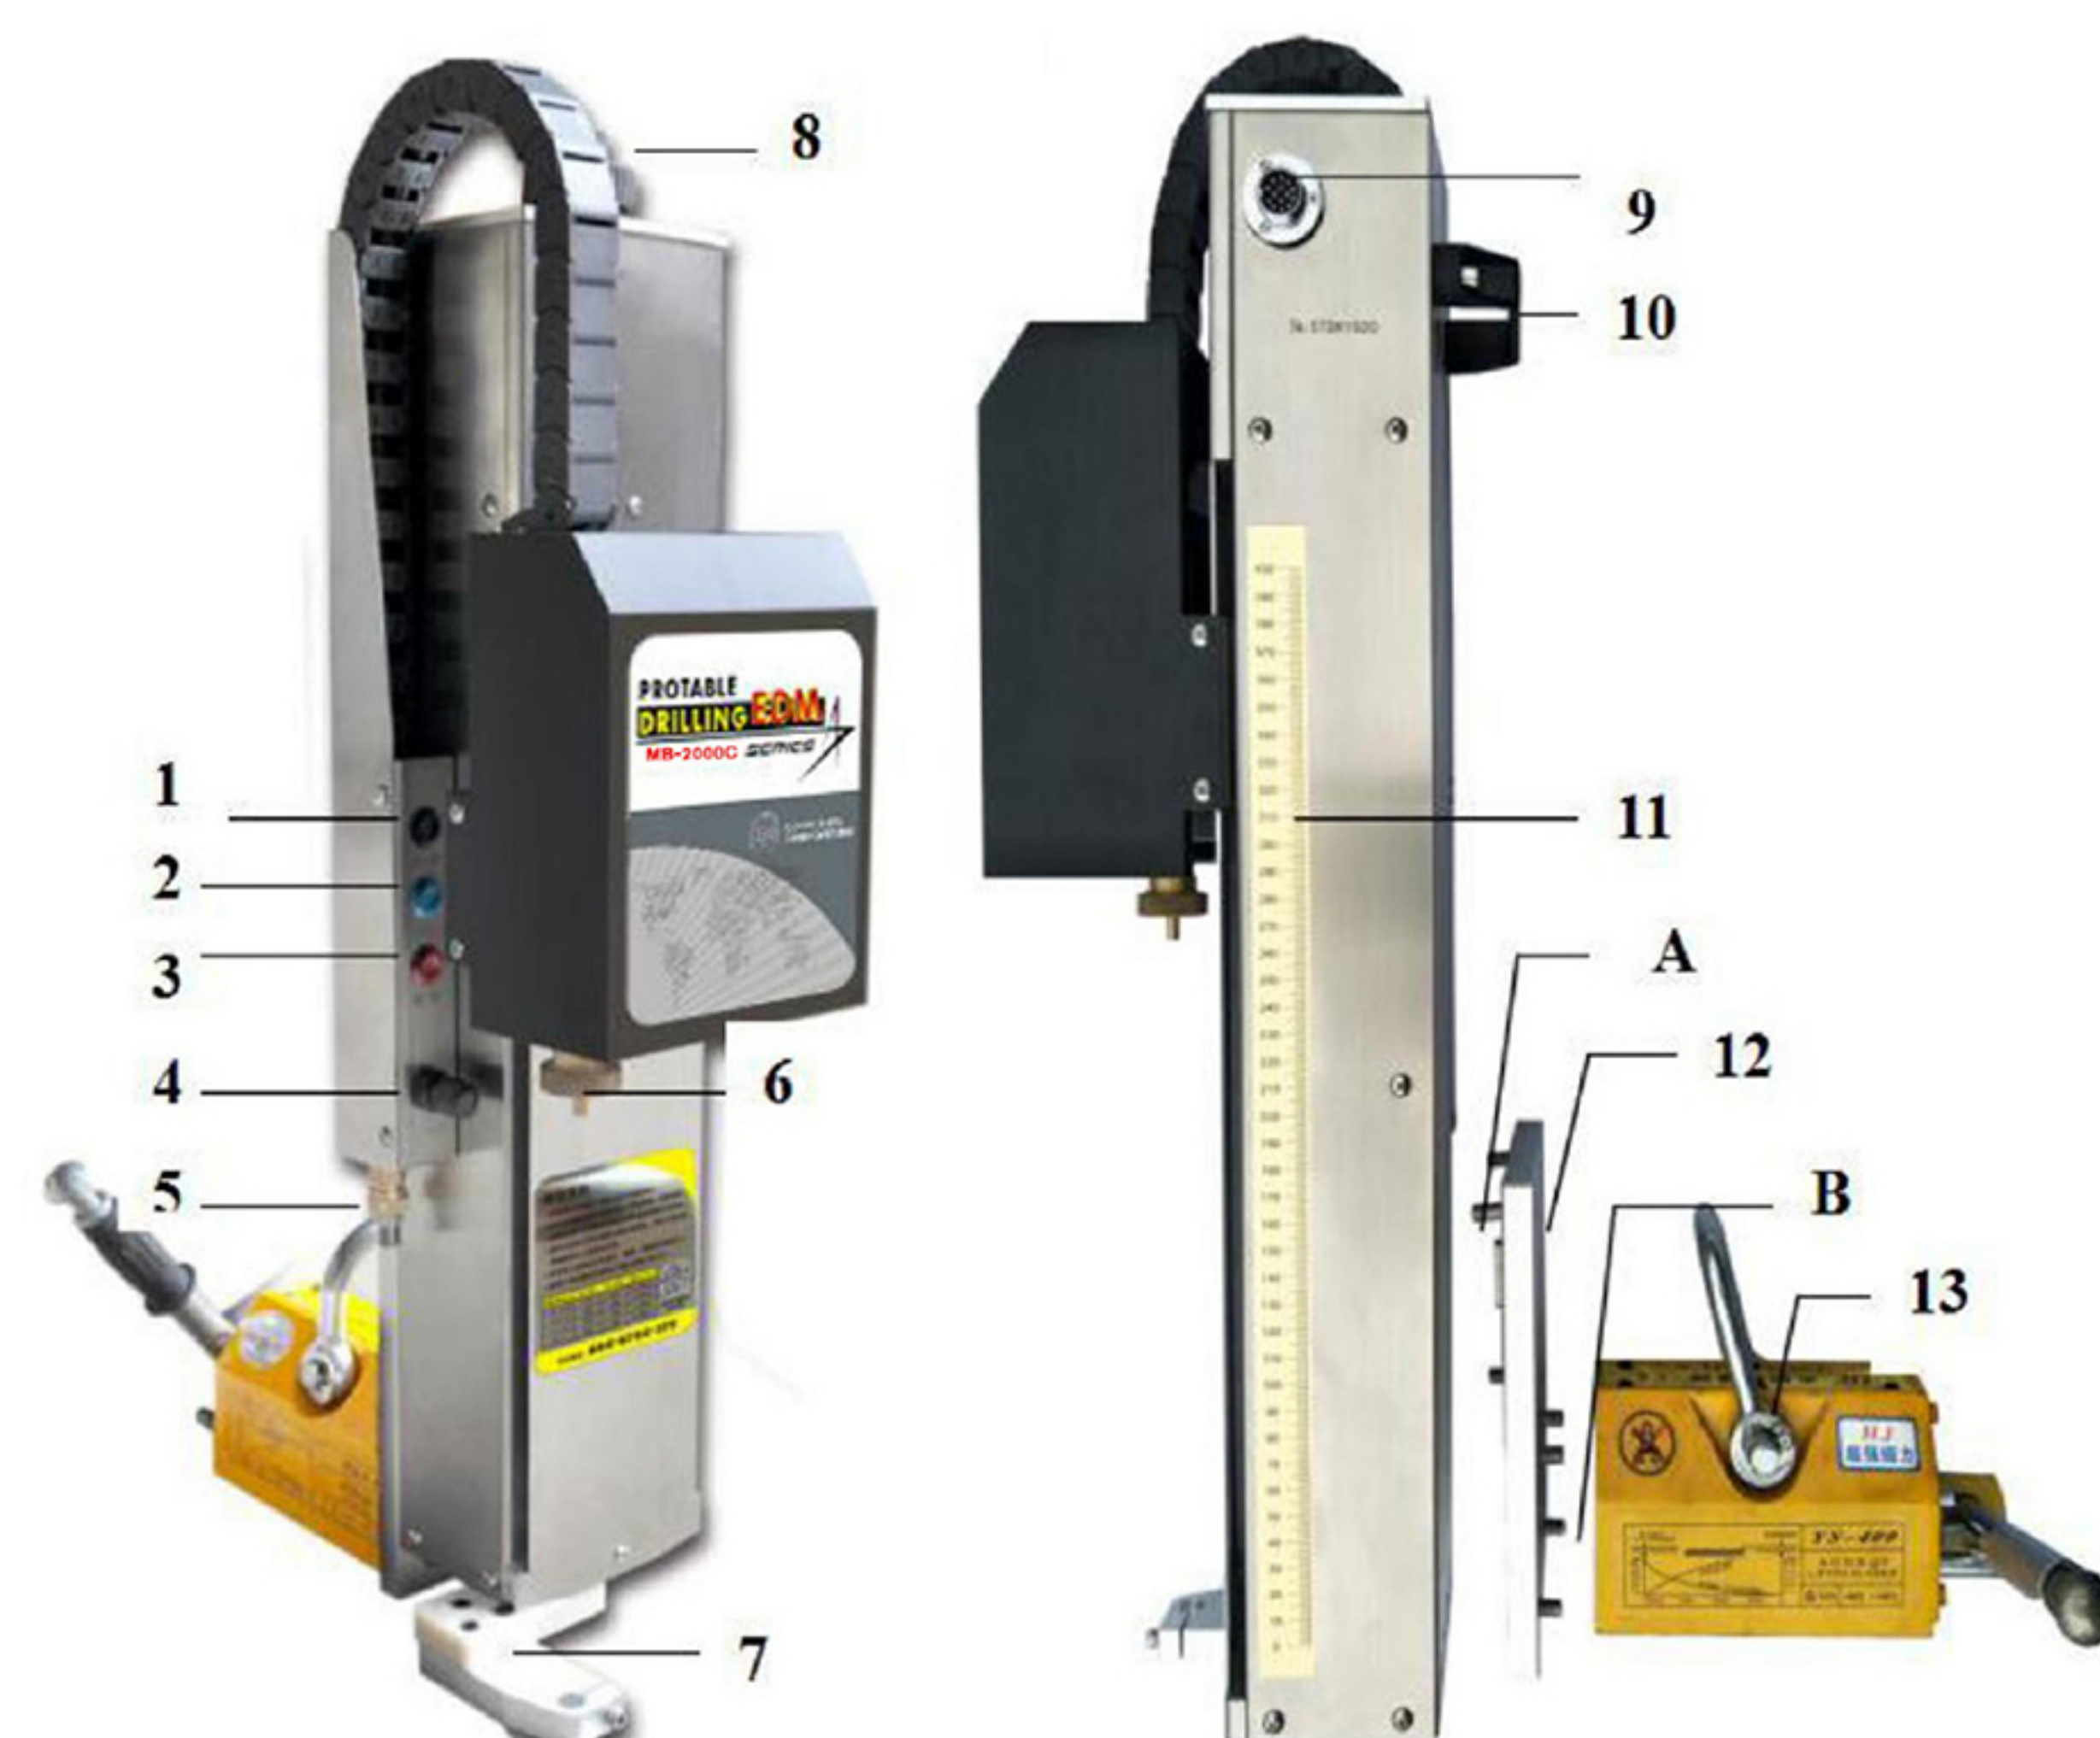

Figure 3 Work Head Structure
(1) The ambient temperature of the place of use should be between 10°C and 30°C. Try to avoid the temperature being too high or too low.
(2) Pay attention to waterproof to avoid corrosive substances damage to the circuit board and operation panel.
(3) Avoid using the machine in places with excessive dust. After use, it should be properly stored to avoid the intrusion of debris and affect the use.
(4) Due to the hollow electrode used in the machine, the internal hollow diameter is too small. When using the working fluid, the filter should be installed to avoid the inclusion of impurities in the working fluid to block the electrode.
(5) Take anti-seismic measures when using. It is forbidden to move the main box, main head and high-pressure water pump in the processing state.
(6) Use distilled water or tap water for the working fluid. Do not use kerosene, cutting fluid or anti-rust liquid.
(7) It is normal for the water leakage of the rotating head to leak slightly. When the water leakage is serious, the upper high pressure sealing ring of the rotating head needs to be replaced.
12. Connecting plate: As shown in Figure 3, the four screws on the B side are connected to the magnetic base, and the four screws on the A side are connected to the body to complete the head assembly.